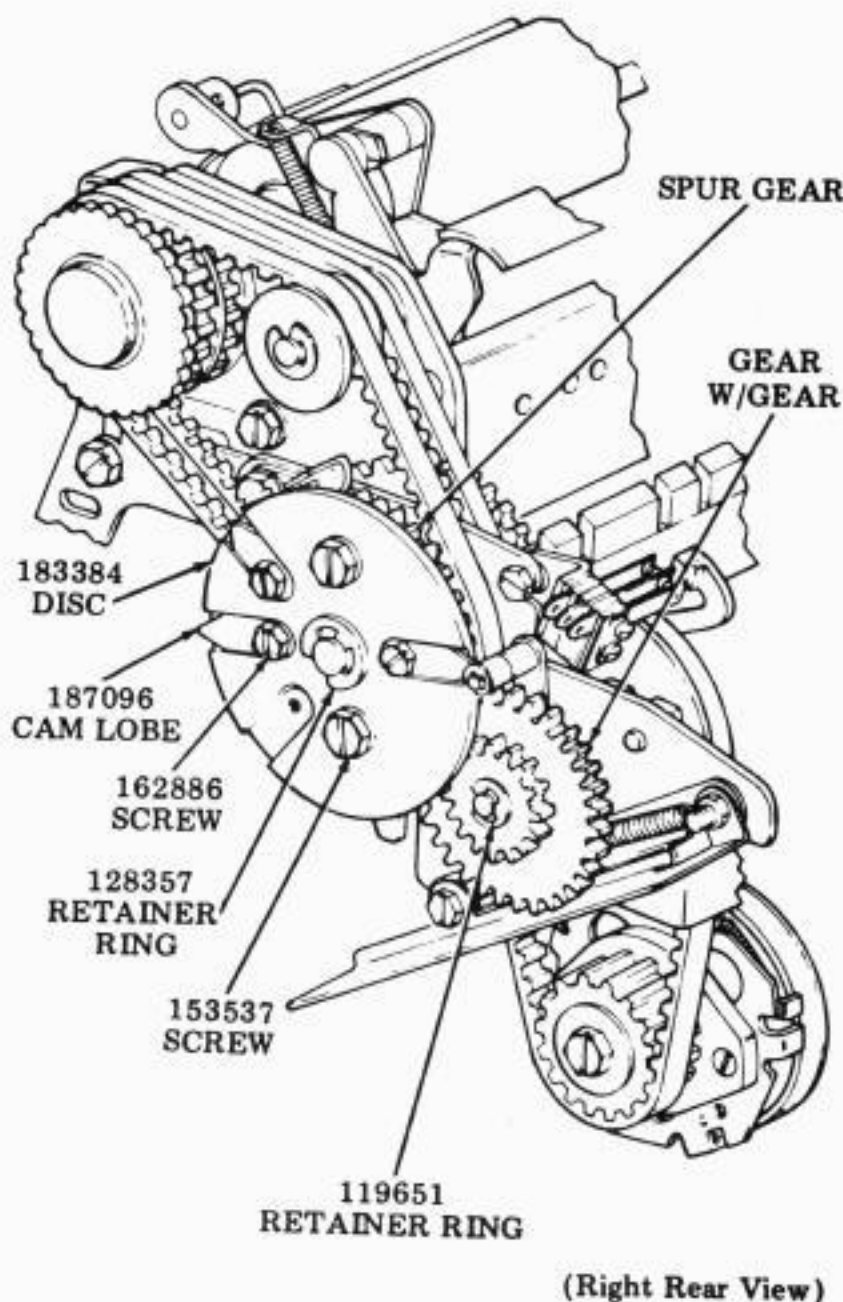

Figure 2 - Form Out Mechanism
2.10 The modification kits provide parts for changing the cam lobes, spur gear, and gear w/gear on the form out mechanism of the sprocket feed typing unit that will enable the typing unit to accommodate various paper form lengths (see Figure 2).
2.14 Disassembly and reassembly is necessary when a change from one form length to another is required. The change is accomplished by merely changing the spur gear, the gear w/gear, and the number of cam lobes. Refer to Figure 2 and proceed as follows:
Install proper number of cam lobes per Figure 2.